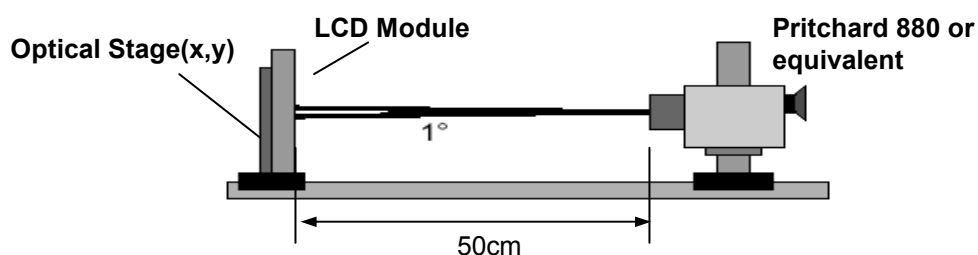

FIG. 6 Optical Characteristic Measurement Equipment and Method
Optical characteristics are determined after the unit has been 'ON' and stable in a dark environment at  $25\pm 2^{\circ}\text{C}$ . The values are specified at distance 50cm from the LCD surface at a viewing angle of  $\Phi$  and  $\theta$  equal to  $0^{\circ}$ . FIG.6 shows additional information concerning the measurement equipment and method.
2. Surface luminance is determined after the unit has been 'ON' and 1 Hour after lighting the backlight in a dark environment at  $25 \pm 2^\circ\text{C}$ . Surface luminance is the luminance value at center 1-point across the LCD surface 50cm from the surface with all pixels displaying white. For more information see the FIG. 6.